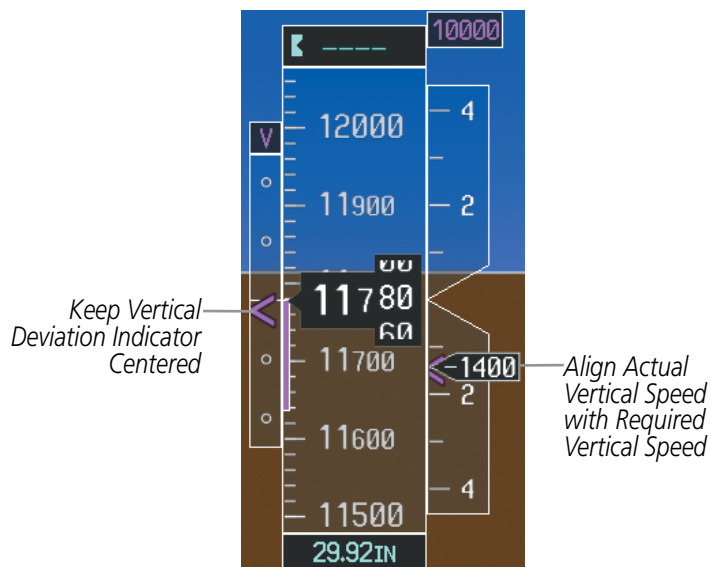

Figure 5-133 VDI & RVSI Showing Correctly Established Descent
- 16) Upon reaching TOD, a descent vertical speed is established by placing the VSI pointer in line with the RVSI as shown in Figure 5-133.